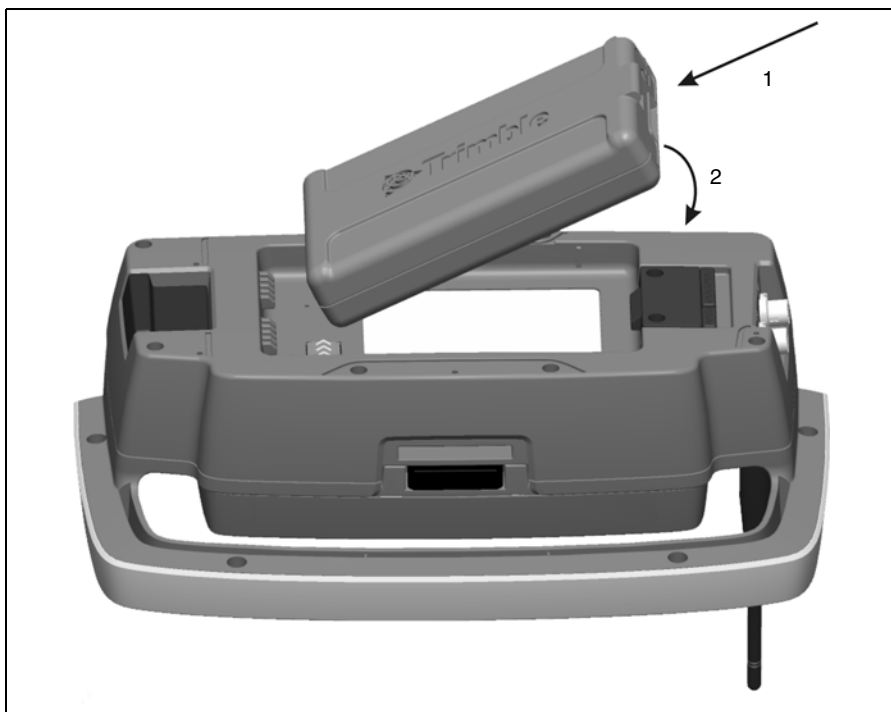

Figure 7.80 Attaching a battery to the Trimble Robotic Holder
1. Fit the battery on to the hooks on the holder (1).
2. Push the battery on to the holder until it clicks into place (2). See figure 7.80